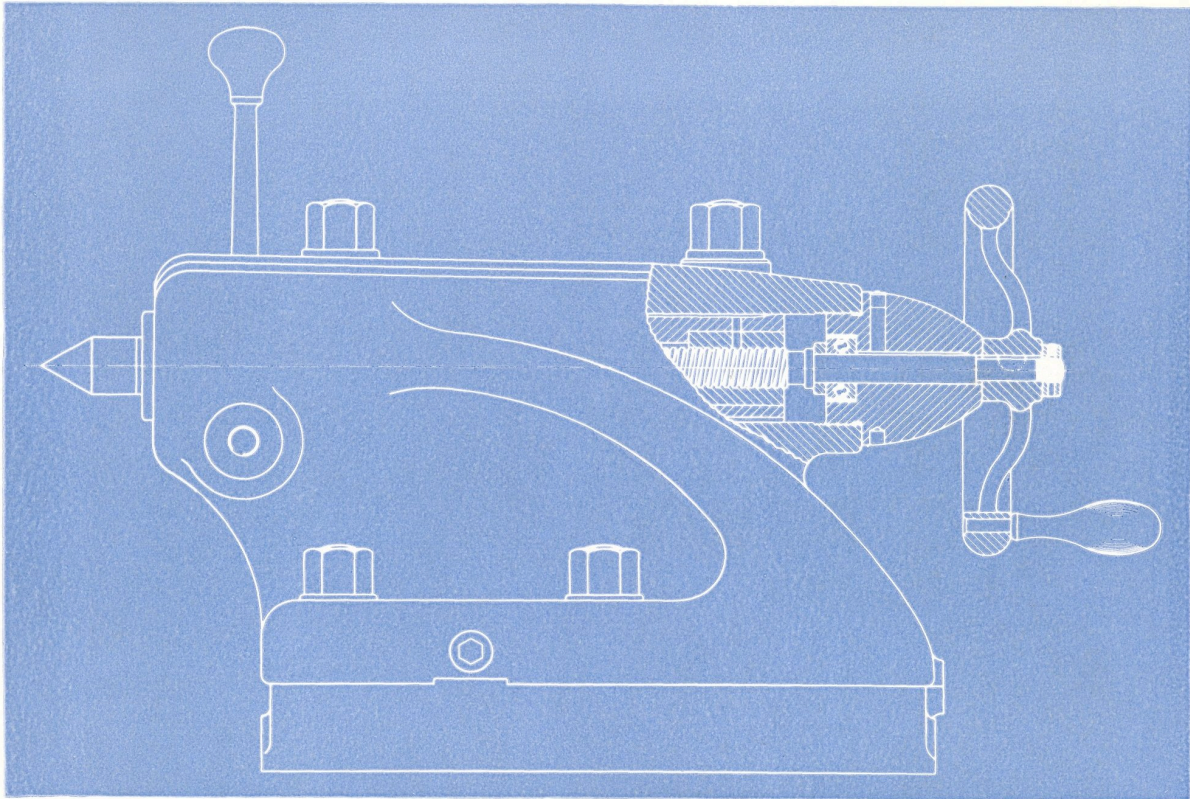

Figure No. 14, Tailstock.
**TAILSTOCK**—The tailstock, Figure No. 14, page 19, is provided with four clamping bolts for binding it securely to the bed. The spindle is clamped and unclamped in the barrel by raising and lowering clamping lever on rear of tailstock.